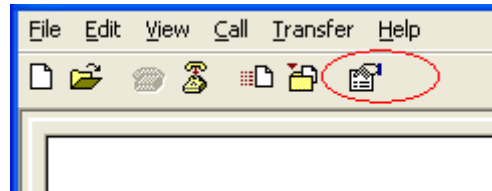
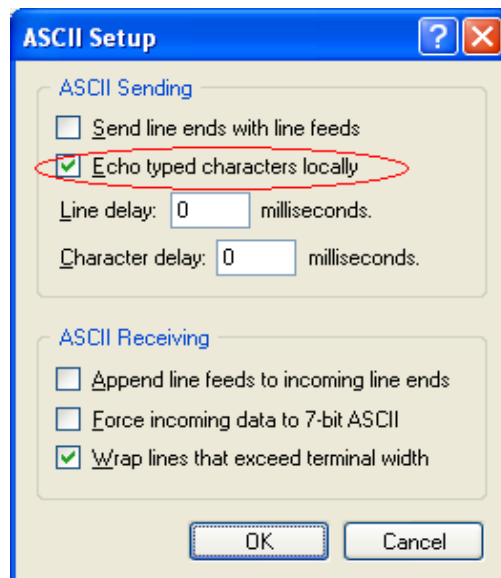

Figure K-27. Port taskbar
Figure K-29. Setting Echo character
Step 5. Configure this port as shown as in Figure K-27. Enter to ASCII setup and setting as shown as in Figure K-29